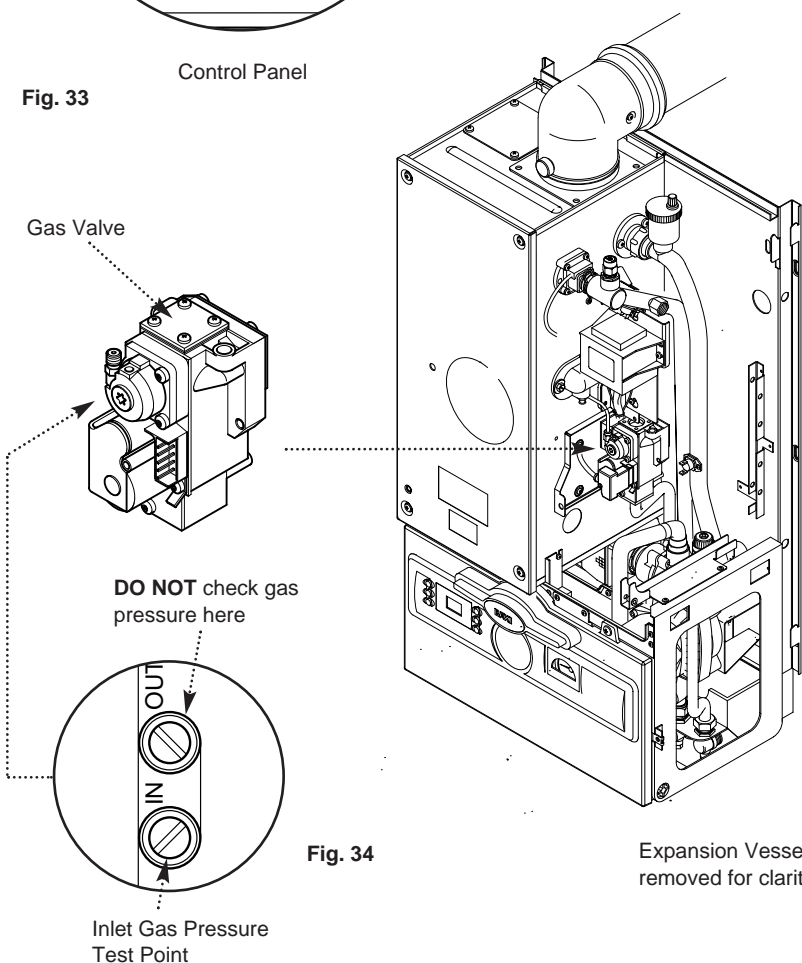

Fig. 34
12. After a period of 3 minutes and with all the system controls calling for heat, check that the gas pressure at the inlet tapping of the gas valve (Fig. 34) is greater than 14 mbar and the gas rate is no greater than 4.1m³/h.